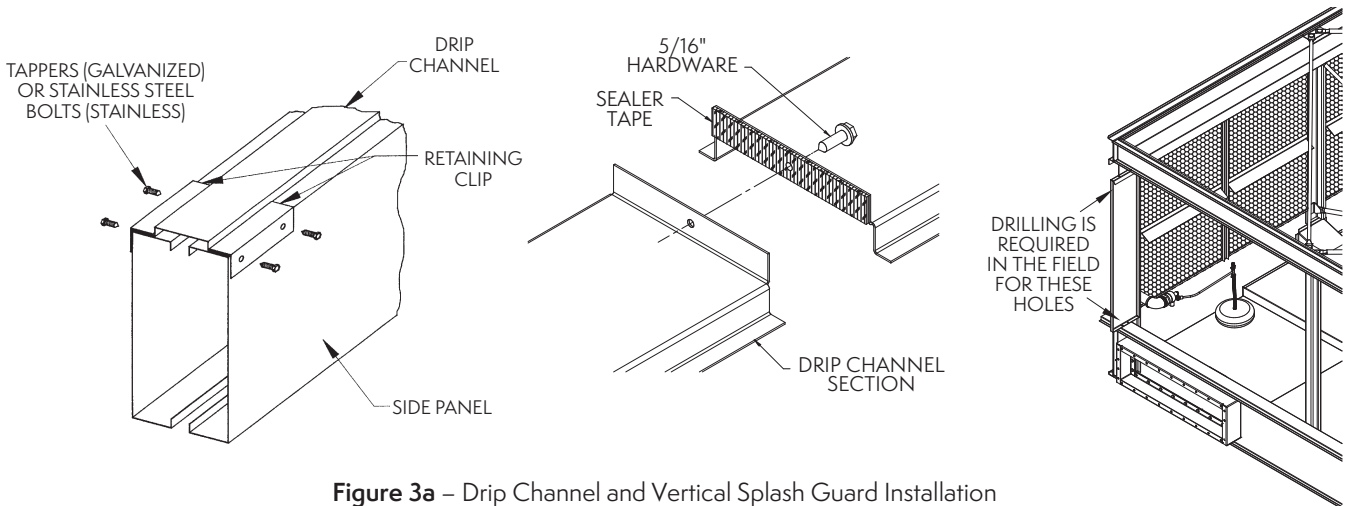

Figure 3a – Drip Channel and Vertical Splash Guard Installation
2. Apply a single layer of sealer tape to the mating flange of the drip channels (see **Figure 3a**). Fasten drip channels together end-to-end by driving a self-tapping 5/16" (8 mm) screw through the section end with the larger hole into the mating end with the smaller hole. Stainless steel units will use 5/16" (8 mm) stainless steel nuts and bolts.